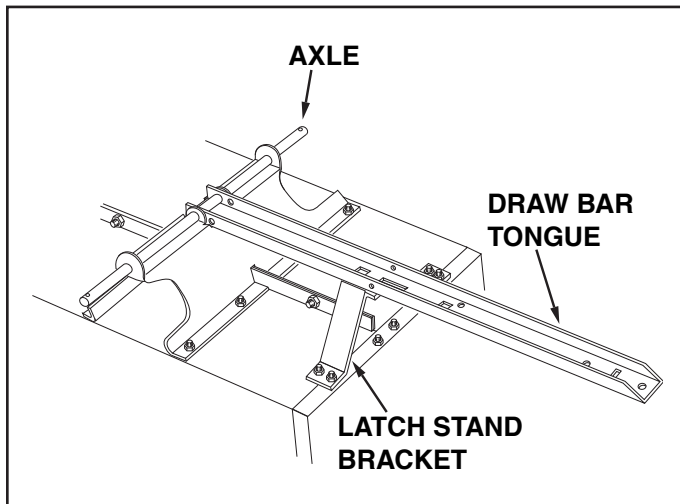

FIGURE 9
13. To prevent accidental tipping during the following assembly procedures, lower the cart to rest upside down on its top flanges, so that the wheel support is facing up. See figure 9.
14. Lay the drawbar tongue (open side facing up) onto the Wheel Support and the Latch Stand Bracket. Assemble the axle through the wheel support and the tongue. See figure 9.